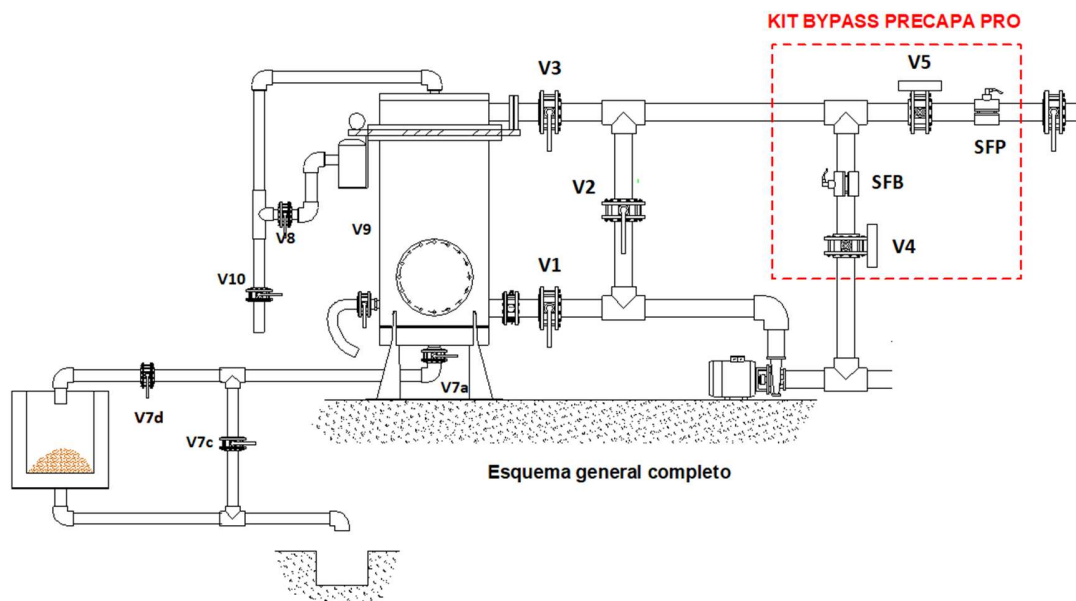

Figure 1.
- Two solenoid valves are required for operation, **which must be pneumatically operated (see Figure 1, 2.1 and 2.2).**